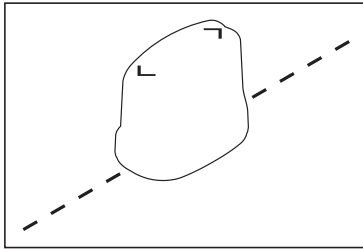

Fig. 23: Alignment of the generator to the line during indirect energising
1. Position the generator so that its longitudinal axis is parallel above the line being located (fig. 23).